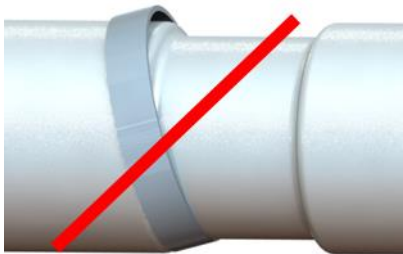

Figure 30
- Do not install clamps at an angle (Fig. 30)